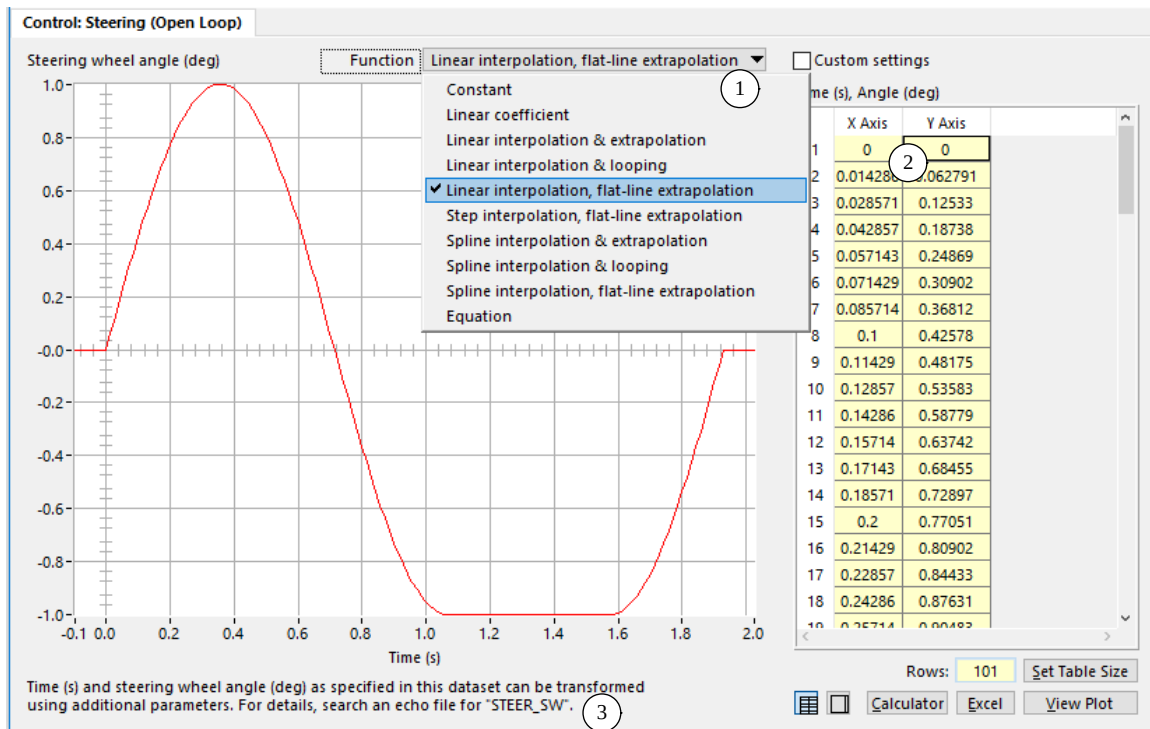

Figure 1. Open-loop steering control screen.
Each open-loop control is represented in a VS Math Model with a Configurable Function that can be set to use one of many calculation methods. For example, Figure 1 shows the library screen for open-loop steering wheel angle control. In this case, the function type is set to **Linear interpolation, flat-line extrapolation** ①, and is based on a table of values of steering wheel angle vs. time ②. The nonlinear relationship from the table of numbers is shown graphically on the screen.
1. *VehicleSim Browser Reference Manual* describes the user interface for configuring the functions with screens such as the one shown in Figure 1,
Figure 2 shows part of an Echo file written at the end of a simulation run in which the `STEER_SW` waveform from Figure 1 was used and rescaled during the run. The comment lines at the top of the listing describe the options that are supported for this specific configurable function (constant, linear coefficient, nonlinear function of time, custom equation, etc.). The options are not the same for all configurable functions; the Echo file provides the reference to indicate which options can be used for each specific function.
After the documentation, the Echo file lists the data associated with the function. The type of function selected on the screen ① (Figure 1) is defined in the parsfile with keywords `STEER_SW_TABLE` and `LINEAR_FLAT`, followed by a table of numbers that match the numbers shown on the screen ②.
All library screens for open-loop controls are similar in layout to the one shown in Figure 1 (page 3). Table 1 summarizes the functions, as defined by the keywords used to specify the controls. The root keyword in the table is used for the table function ( $f$  in the above equations), the import variable identifies *import*. Each function also has four parameters for transforming the calculated value (e.g., STEER\_SW) or time, as described earlier. The table also lists the output variable used to plot the function values.